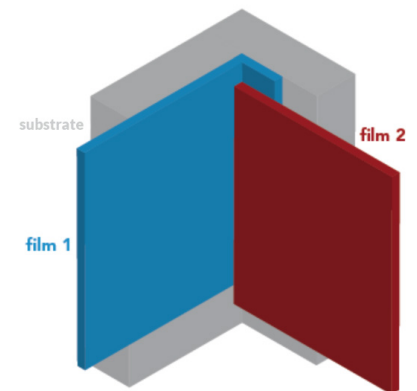

Figure 02
- › Installation on an edge (FIG. 02): Install on the first wall with an overlap of 2 cm -3 cm (0.79 in. to 1.18 in.) on the adjoining wall (film 1). Then install the film on the second wall (film 2), and keep going until the edge.